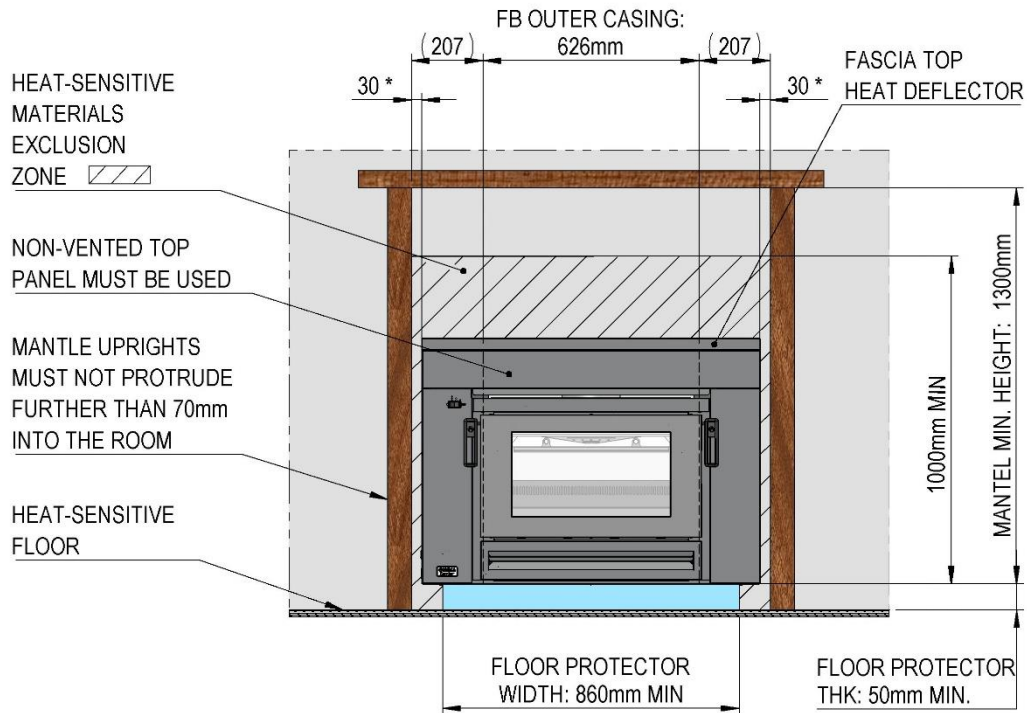

Fig. 5
- E1. Non-combustible front cladding **must be used**, to a minimum of 1000mm from the top of the appliance hearth, and a minimum of 207mm either side of the outer casing of the firebox. (Fig. 5)